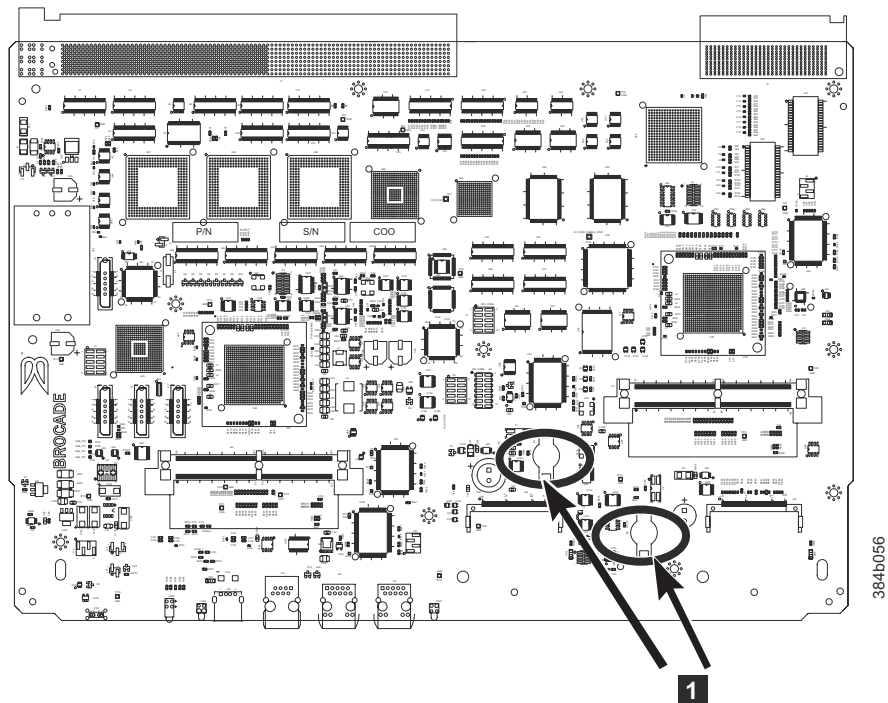

Figure 48. Battery locations on the CP8 blade
6. Go to the following locations and remove the two BR1225 batteries from each of the PCBAs (see **1** in Figure 48):